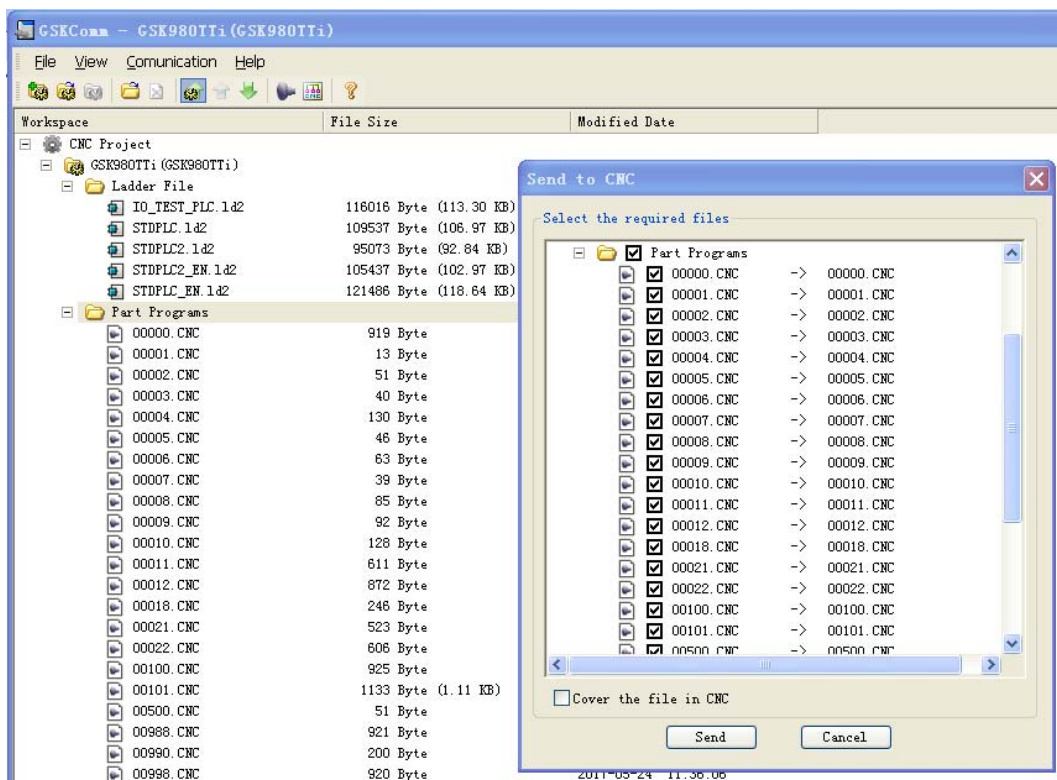

Fig.1
- ① A dialog box to send files to CNC is popped up as follows Fig.1;